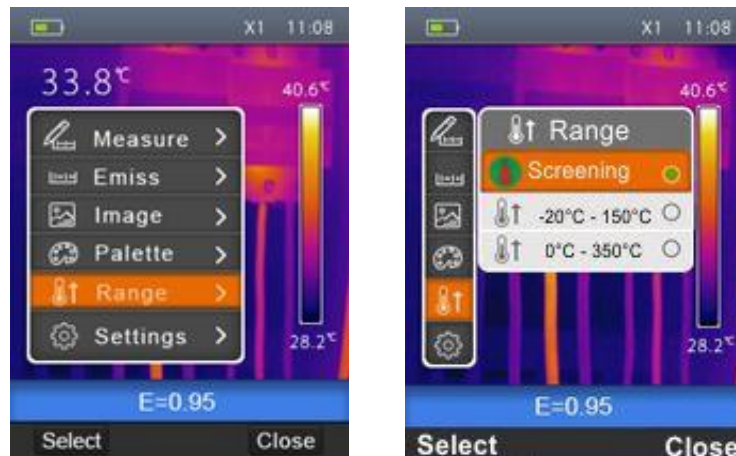

Fig. 27: Setting measuring range on the instrument
1. Select the item “Range” using the keys  or  and press the key . The screen Fig. 27 – Right side is shown on the display